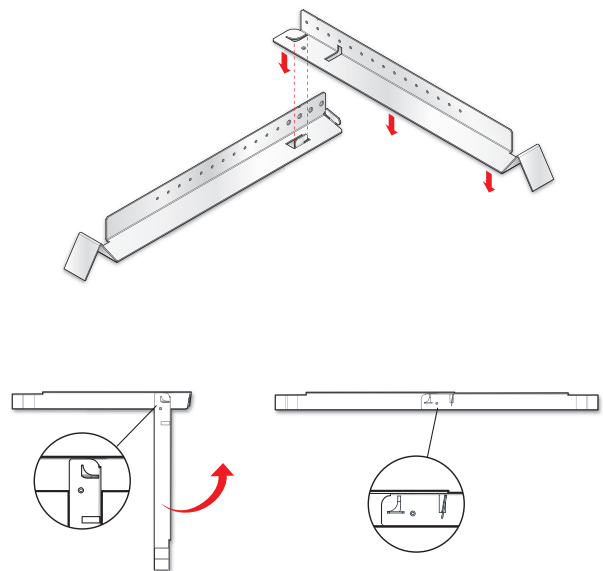

Figure 1. Assembling the V-rails
- a. Assemble two V-rail half sections by fitting the tab of one end into the slot of the other end. Open the V-rail until it locks together (see figure 1). Repeat this procedure for the other V-rail.